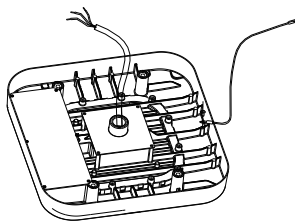

Figure 1
1. Fix one side of the accessory safety rope on the back of the fixture (Figure 1).